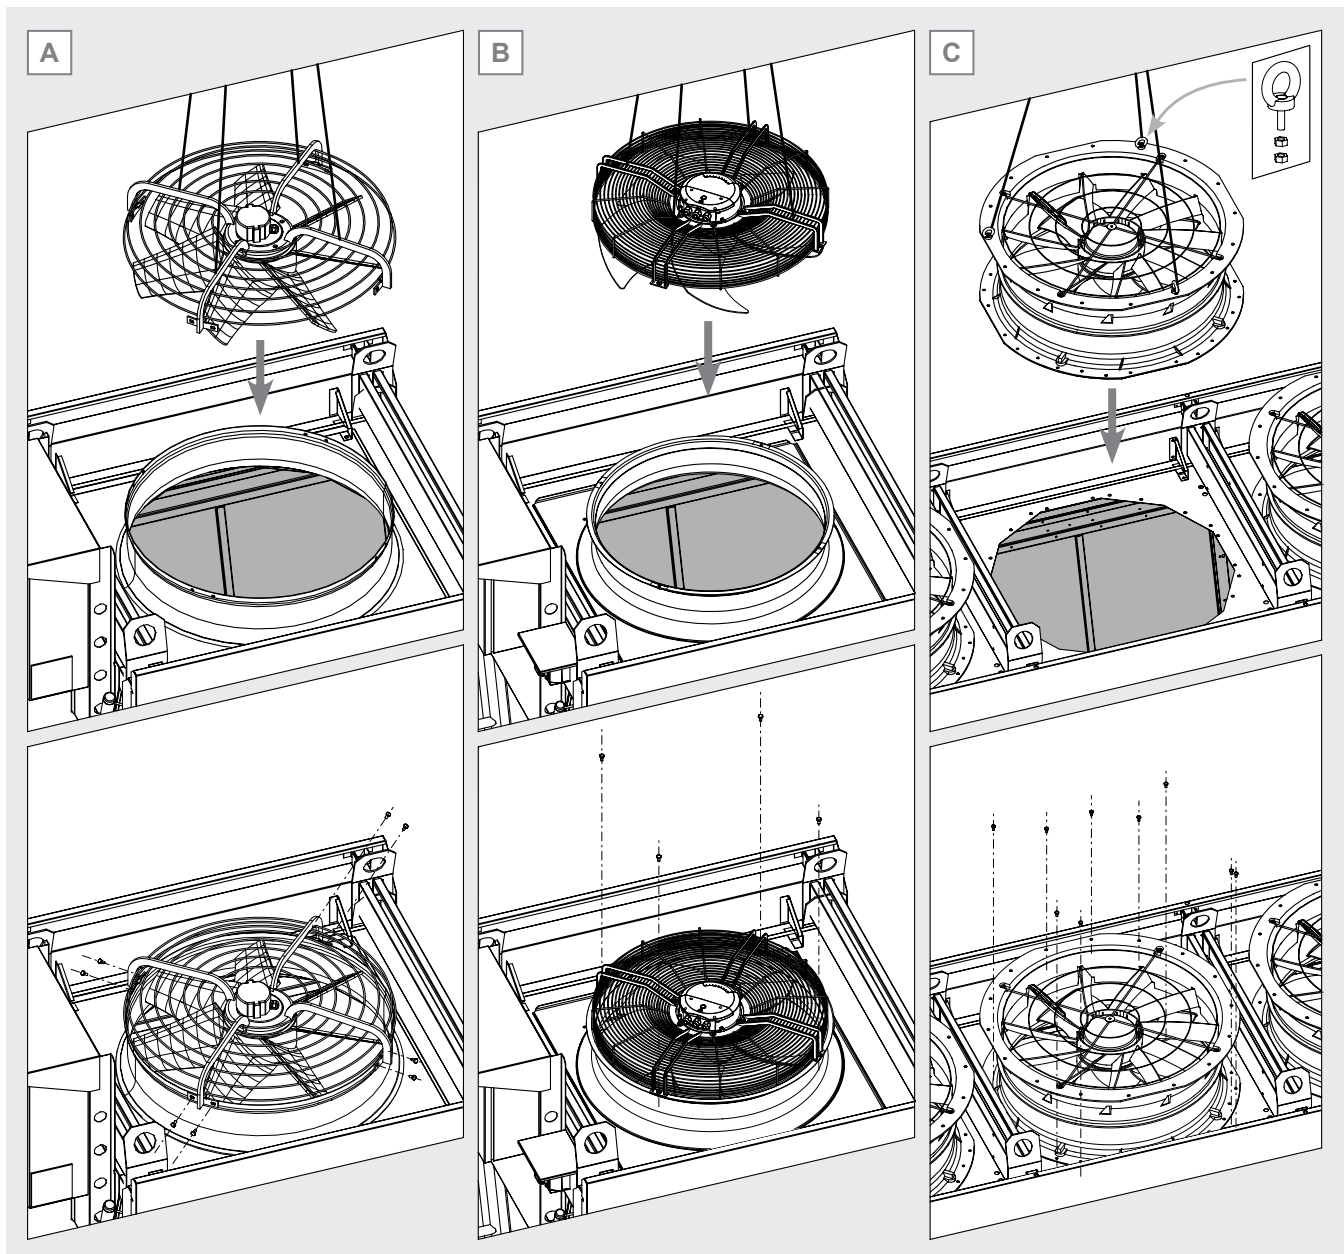
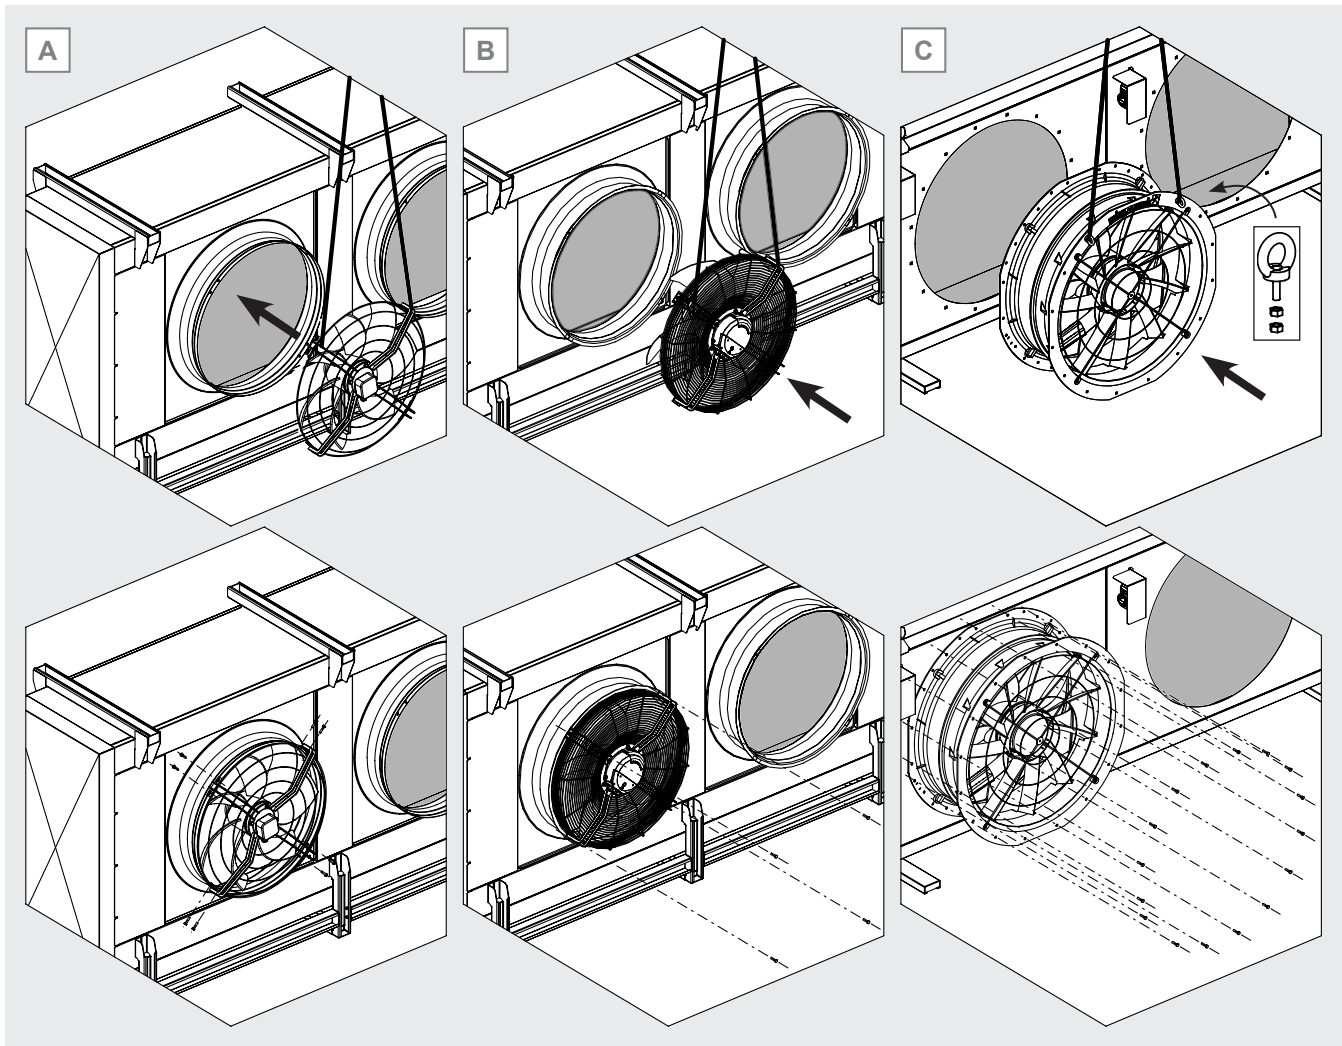

Figure 2
Figure 3
- 2.9.1 Radial and plane-attached fan: attach hooks or lifting straps to the fan grille arms. See Figure 2 A and B, Figure 3 A and B.
- For a model with vertical air flow, attach at least 3 lifting eyebolts with nut and lock nut to the upper flange of the fan. The eyebolts must be evenly distributed (e.g. 120° if no. 3 eyebolts). Attach hooks or straps to the lifting eyebolts. See Figure 2 C.
- For a model with horizontal air flow, attach at least 2 lifting eyebolts with nut and lock nut to the upper flange of the fan. The eyebolts must be evenly distributed. Attach hooks or straps to the lifting eyebolts. See Figure 3 C.